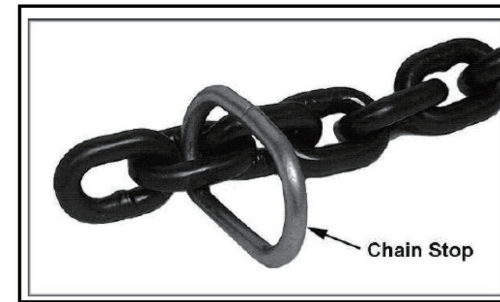

FIG 1
- A chain stop must be attached to the second-to-last link on the slack end of the chain. See (FIG 1) for an example. Do not operate the hoist with a twisted, kinked or damaged chain. Do not splice the chain.